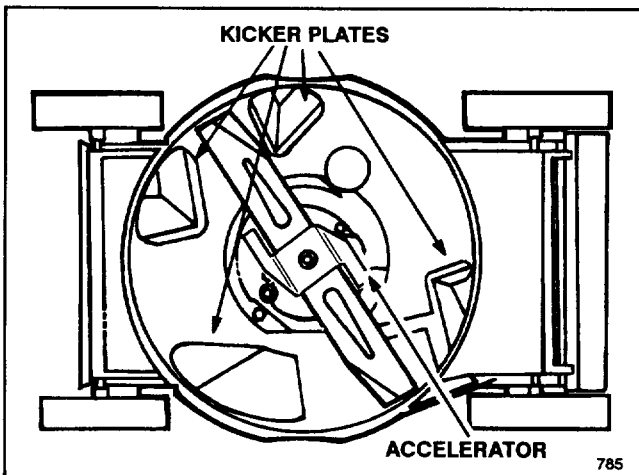

Figure 7
- Four special "kicker plates" positioned on the underside of the mower deck in strategic positions (Fig. 7)